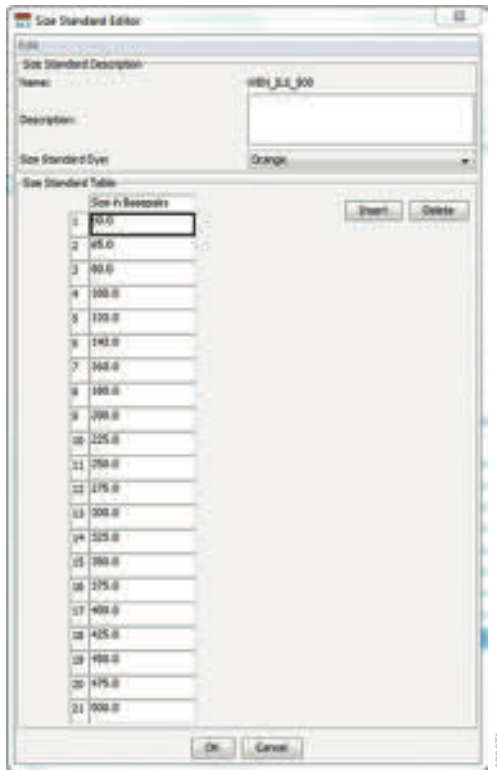

Figure 16. The GeneMapper® ID-X Software, Version 1.4, Size Standard Editor.
4. In the Size Standard Editor window (Figure 16), select “GeneMapper ID-X Security Group” as the Security Group. This allows access for all users of the software. Other security groups may be used.